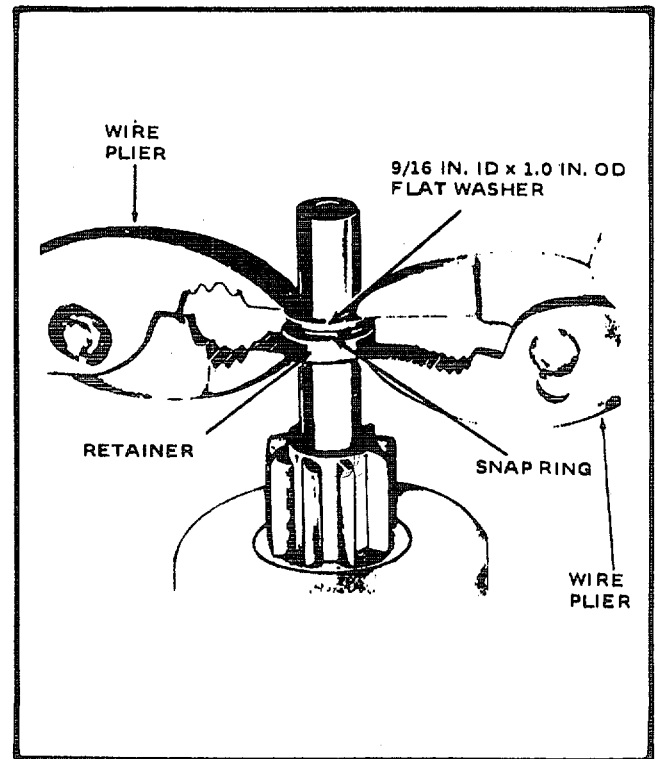

Figure 6-20. Assembling Snap Ring and Retainer
- (4) Compress snap ring (11) into groove (30) and work the ring (11) into bearing (11). See Figure 6-20.